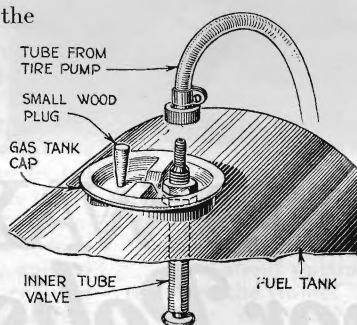

Fig. 4. Novel scheme keeps gas flowing to Ford carburetor on a steep hill
**E**XCEPT in the case of the latest model Ford car, the gas tank on all Fords is so located that when less than two gallons remain in the tank the level is so low that no gas is supplied to the carburetor on very steep hills. An ordinary tire valve fitted in the gas tank cap with a wooden plug stuck in the air inlet hole as shown in Fig. 4, will allow you to pump enough air pressure into the